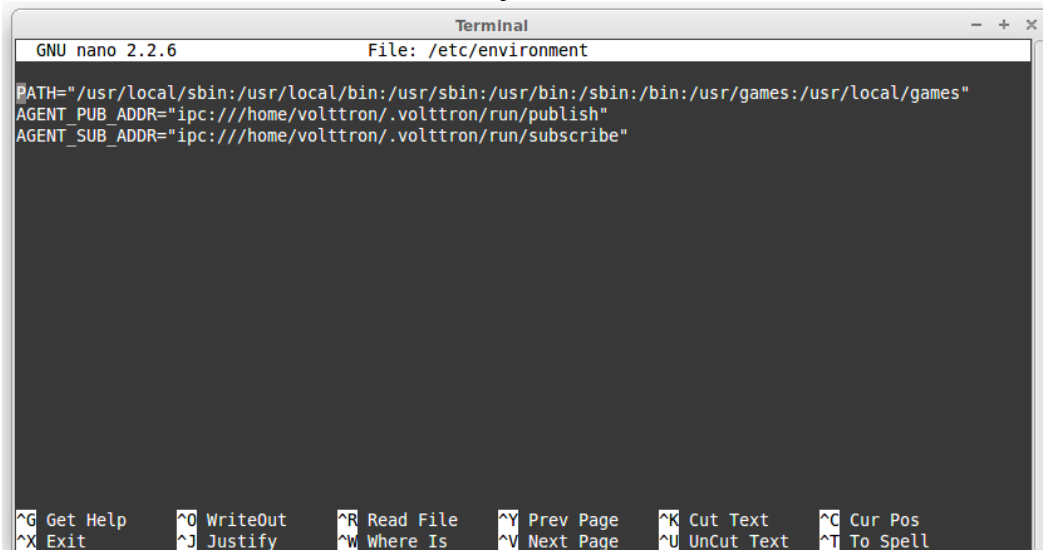

Figure 29: Setting Path to Message Bus and Environment Variables
- Open the file containing the paths to set environment variables and edit as shown in Figure 29: